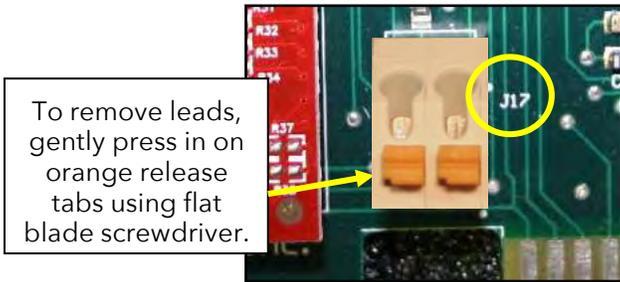

Figure 10. TERMINAL BLOCK J17.
- From circuit board terminal block J17, carefully remove the two yellow leads coming from the humidity sensor. Refer to Figure 10. Use a flat blade screwdriver to gently press in on either orange release tab, then gently remove the lead from the terminal. Repeat for the second lead.